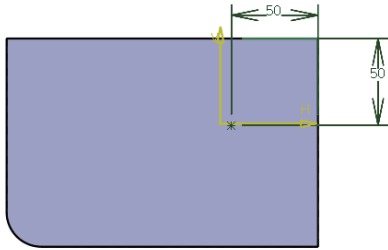

Fig 6-16 Define the Location
6. Press the **Constraint** button and define the location of the point as shown in Fig 6-16.